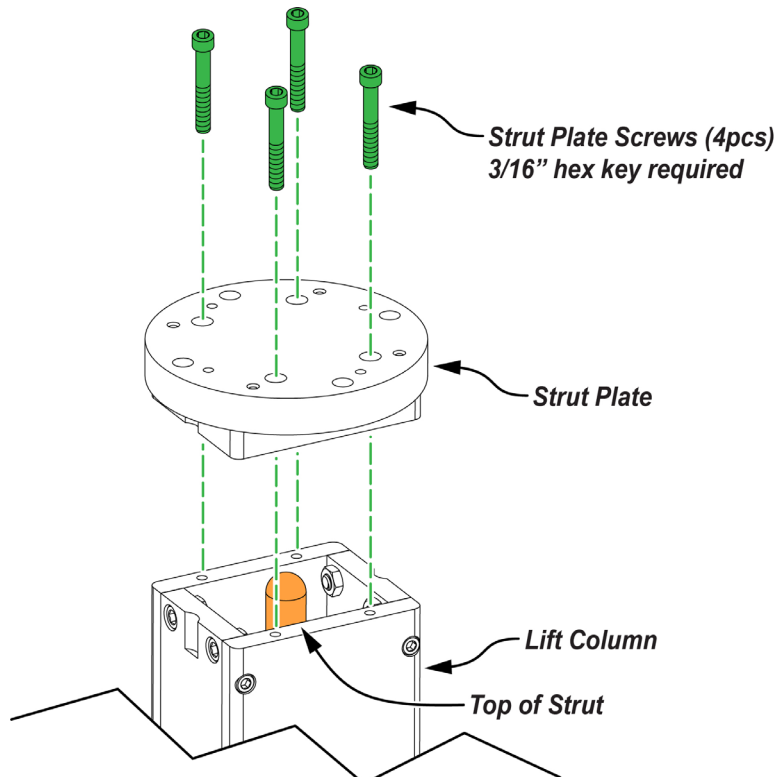

Figure 7 - Removing the Strut Plate Screws (4 pcs)
- 8. Use a 3/16" hex key to remove the four screws that fasten the strut plate to the top of the lift column. In **Figure 7**, these screws are shown as green. Retain the screws for re-installation later.